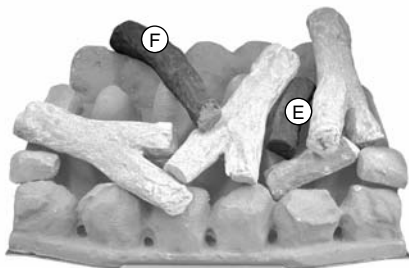

Fig. 36
7. Lay the logs in alphabetical order ensuring that they sit on top of the fuel bed peaks, not in between (Fig. 36).